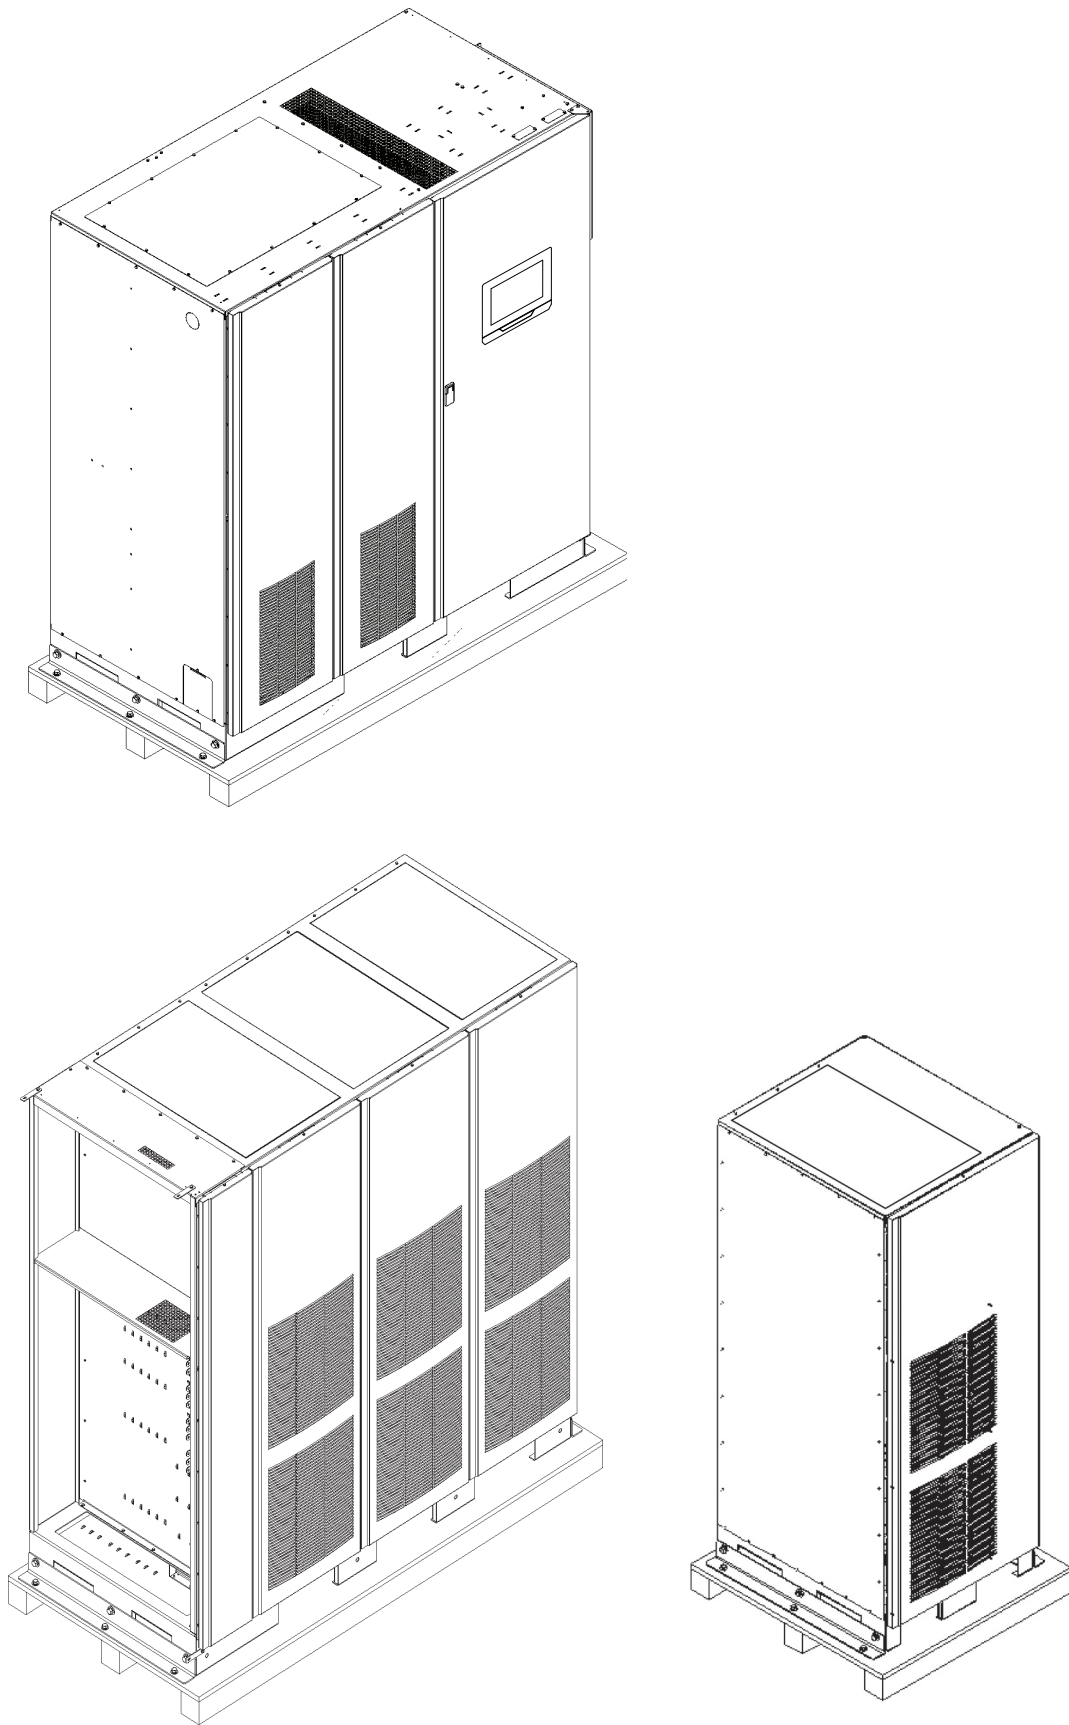

Figure 3-16. Eaton 9395P UPS cabinet as shipped on pallet - ISBM section, UPM section and FI UPM section
The UPS cabinet is divided into two sections (750 kVA) or three sections (1100 kVA) which are palletted separately for shipping. The cabinet is shipped bolted to a wooden pallet and protected with outer protective packaging material (see Figure 3-16).
2. Use a forklift or pallet jack to move the packaged cabinets to the installation site, or as close as possible, before unpacking. Insert the forklift or pallet jack forks from the right side of the cabinet, between the supports on the bottom of the pallet (see Figure 3-6 on page 21 and Figure 3-16 on page 29 for the location of the UPS center of gravity). If the cabinets must be moved using the cabinet front or rear fork lift slots, see the caution statement at the beginning of this procedure.